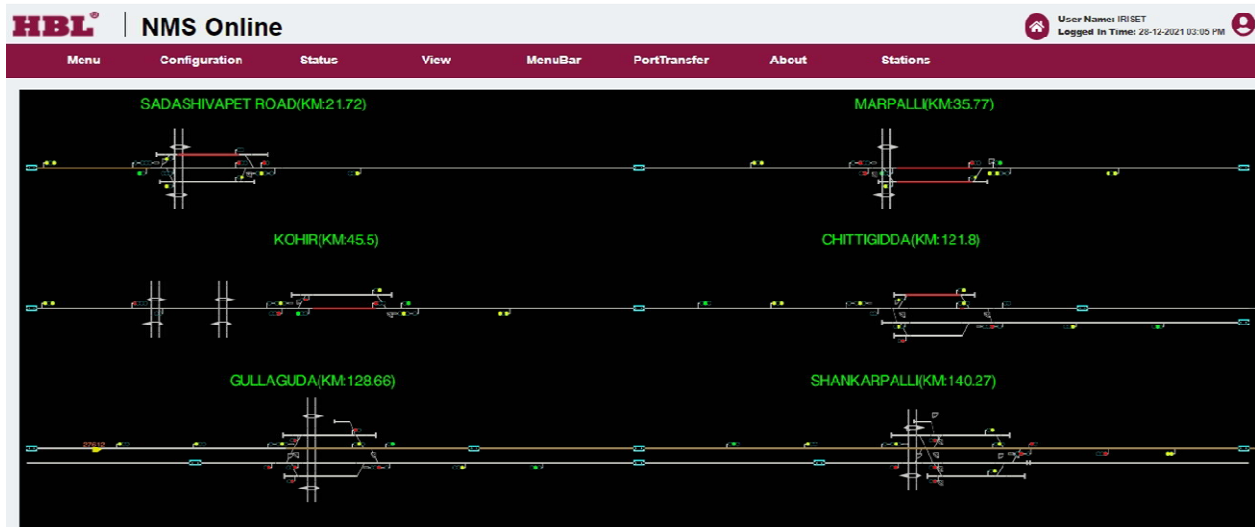

Fig 5. Connected yard layout
3. Now ethernet connectivity is to be established by using Menu→ethernet config.→connect.After this the whole layout will be connected with NMS as per the network condition . If in link then all station name will be green as shown in fig 5.